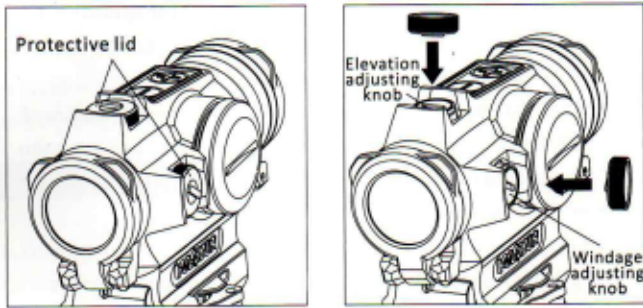

Fig 6
1. On top of sight is the elevation adjusting turret, windage adjusting turret is on the right side (see Fig6). The sight has been factory adjusted for approximate zero.
2. The built in screw driver tool on the protective cap can be used for zeroing adjustment (see Fig6). See label inside cap.